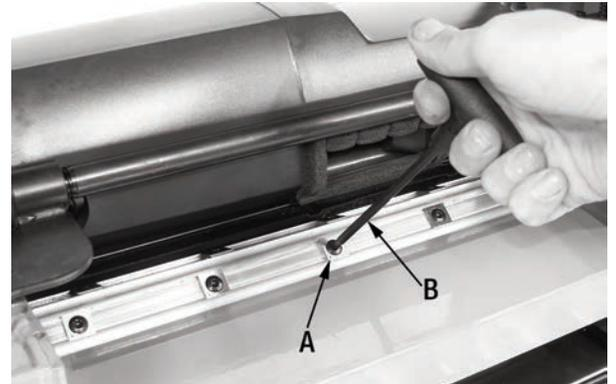

FIGURE 15
- 5) While preventing the cutterhead from turning, remove each of the cutter inserts (A) Fig.15 with the supplied Torx wrench (B).